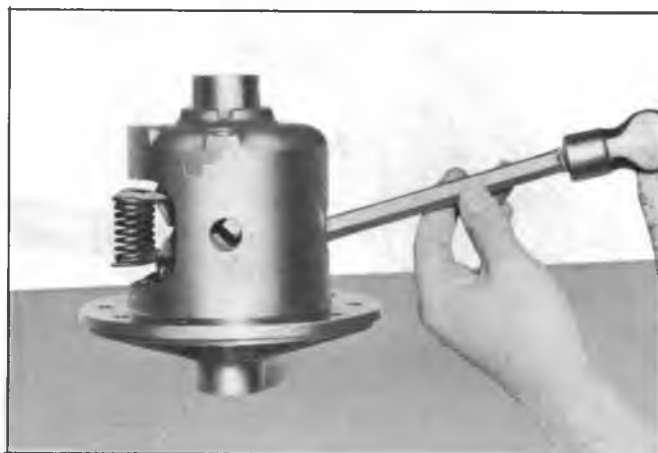
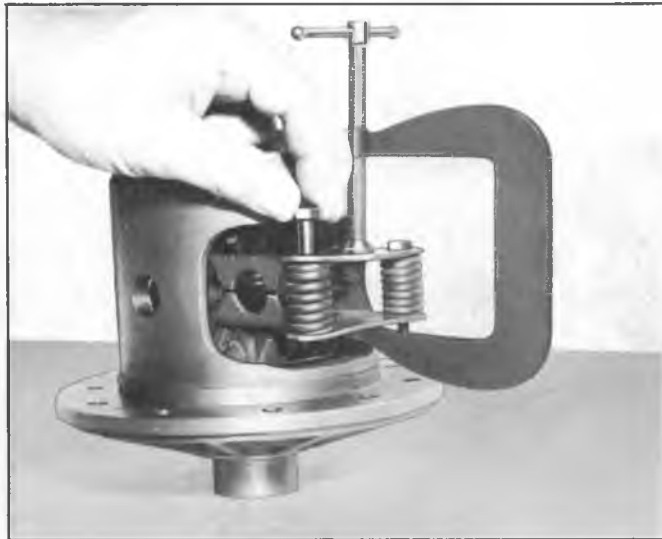

Fig. 3E--Removing Preload Spring Pack (Typical)
Fig. 4E--Installing Bolts to Retain Springs
2. **For all models except Corvette**, remove the preload spring retainer and springs by tapping on the spring retainer through the observation hole in the case. See Figure 3E. Drive the spring retainer from the case sufficiently to allow insertion of a 1/4 inch bolt in each of the two front springs. Secure each bolt with a nut as in Figure 4E.